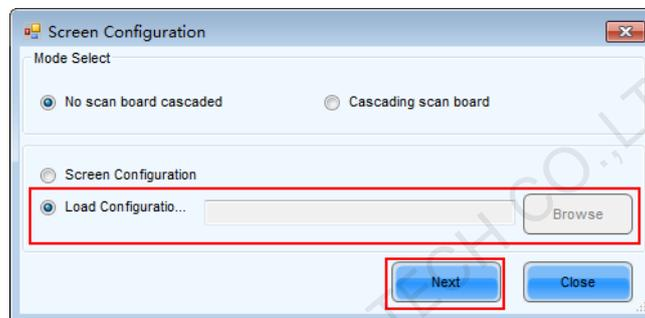

Fig. 7-1 Select screen configuration mode
- 1) Select “**Screen Configuration**” option in the Fig.7-1, and click “**Next**”, enter Scan Board window, as shown.
Switch to “Screen Config” page in Fig. 7-1, interface of No scan board cascaded mode as shown below: